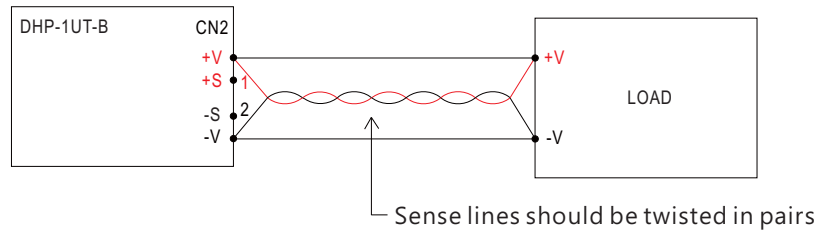

Figure 5-8 Connection of Remote Sense
- When using this function, the sensing wires should either be twisted or shielded to prevent external noise interference (refer to Figure 5-8)